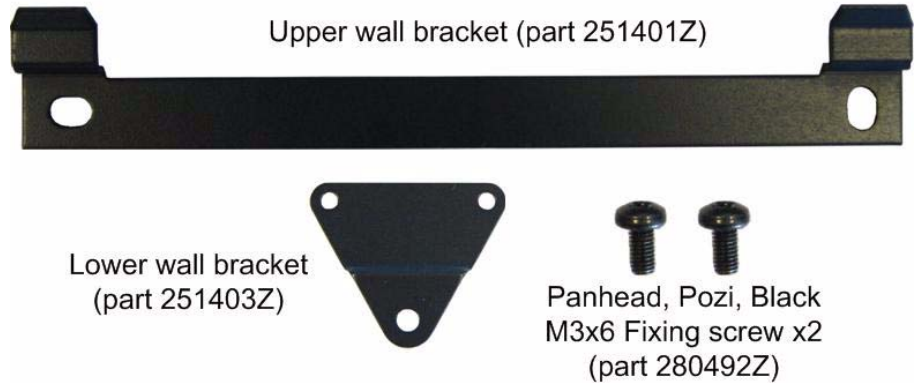

Figure 4-1: Desktop Wall Mount Kit
1. Locate the panel fixing kit provided with the desktop panel. The contents of the kit are shown in Figure 4-1.